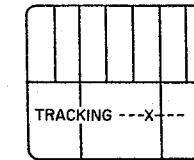
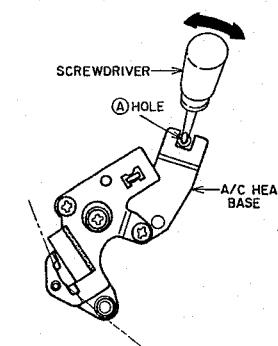

Fig. 4-15
Fig. 4-17
- Press the "<" or ">" cursor button on the remote control until the "X" mark can be seen in the center position of the tracking range on the TV screen as shown in Fig. 4-15.
- Loosen the ④ screw slightly so that the A/C HEAD PLATE can be moved with reasonable tightness.
- Insert a sharp, flat head (→) screwdriver into the A/C HEAD BASE and ④ hole as shown in Fig. 4-17.
- Move the A/C HEAD BASE by moving a screwdriver in the direction of the arrow as shown in Fig. 4-17 to obtain the maximum RF output, then tighten the ④ screw.